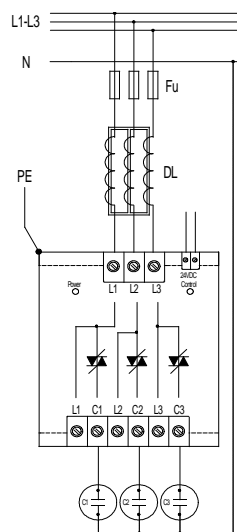

Fig. 2b
- **Fig. 2b, 5b** – Capacitors (or other load) are star-connected to the phase-to-neutral voltage. The N Neutral wire is connected for asymmetric or capacitive loads. It is however not used for reactive power compensation. There is no fast discharge circuit. **Not usable for compensation systems !**